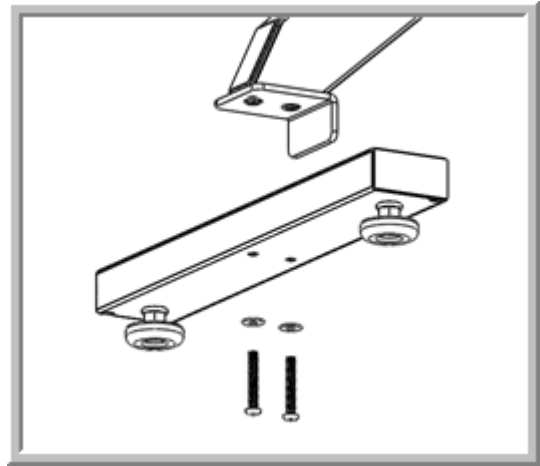

Fig. 4
4. Installing the Back Leg (Fig. 4)